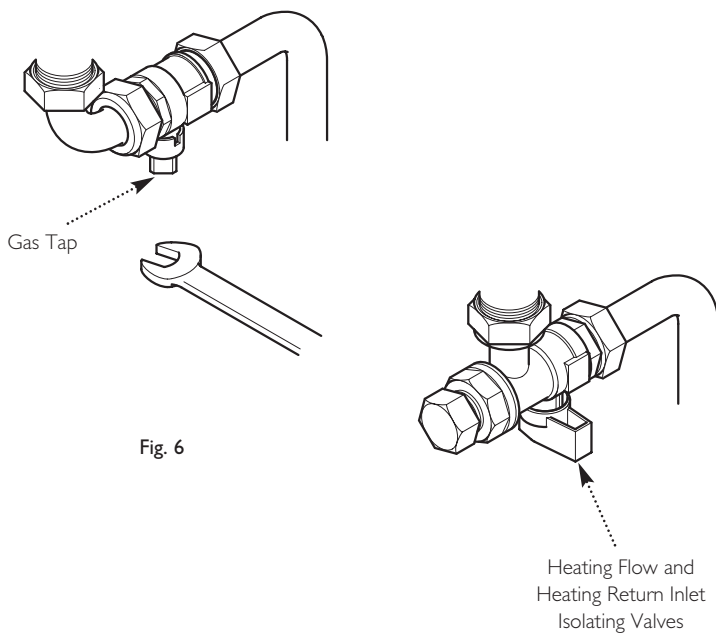

Fig. 6
Turn off the gas supply at the meter and call your gas supplier immediately. It is possible to isolate the boiler and at the isolating valve (Fig. 6).
1. Using a suitable open ended spanner, turn the square nut on the gas tap through 90° (1/4 turn) to isolate the gas supply at the boiler (Fig. 6).
2. The water isolating valves are positioned under the boiler and can be closed by turning their taps to the right towards the wall (Fig. 6).